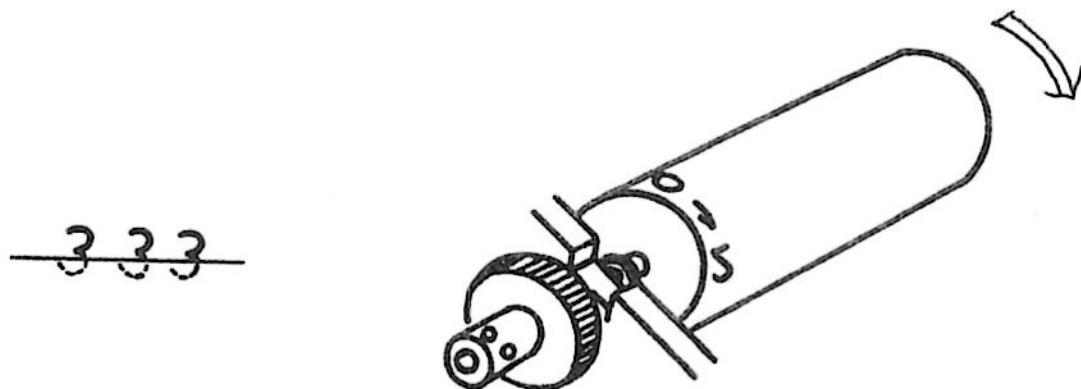

Fig. 11
- (1) Remove slit disk lid (29) and rotate motor gear until TP0 slit aligns with center of screw and shaft.
- (2) Loosen setscrews (42) and turn the print wheel until the center between 0 and 1 of the 13th digit is facing upwards while holding the print wheel gear in position.
(3) Temporarily tighten setscrews, then make a few prints.
(4) Print-out
- A) If lower part of characters is not printed, loosen setscrews and slightly turn print wheel in direction of arrow in Fig. 11